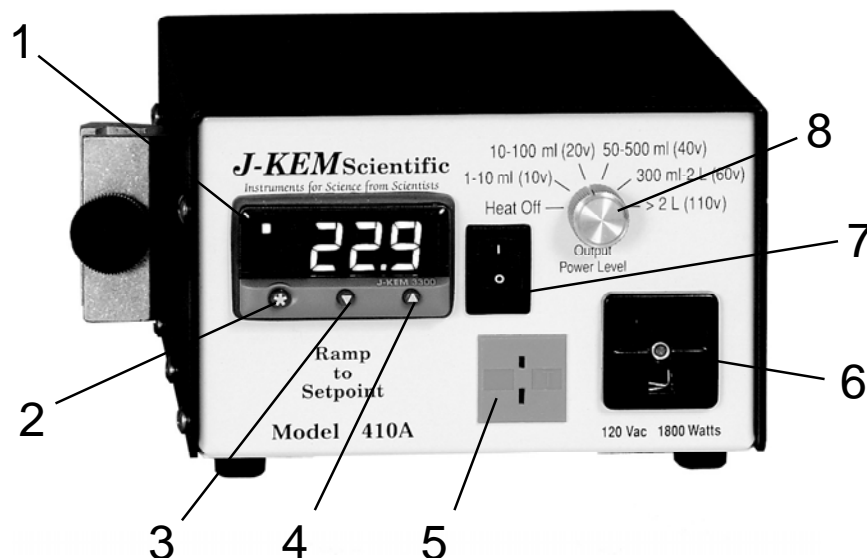

Figure 1
3.4 Temperature Sensor Input. Every controller is fitted with a specific *type* of thermocouple input and can only be used with a thermocouple of the same type. For the correct temperature to be displayed, the thermocouple type must match the receptacle type on the front of the controller (Figure 1; # 5). All thermocouples are color coded to show their type (Blue = type T; Yellow = type K; Black = type J). The color of the thermocouple plug must match the color of the receptacle on the front of the controller. If the thermocouple is broken or becomes unplugged, the error message "inPt" "FAiL" blinks in the temperature meter display and the controller stops heating.